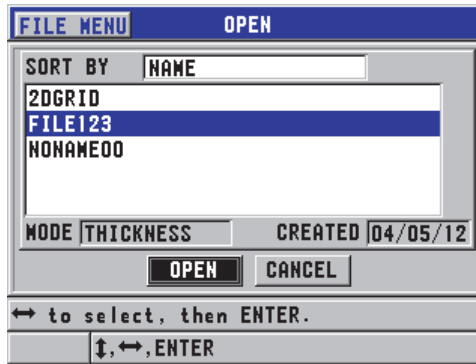

Figure 6-27 Opening a file
2. In the **OPEN** screen (see Figure 6-27 on page 117):